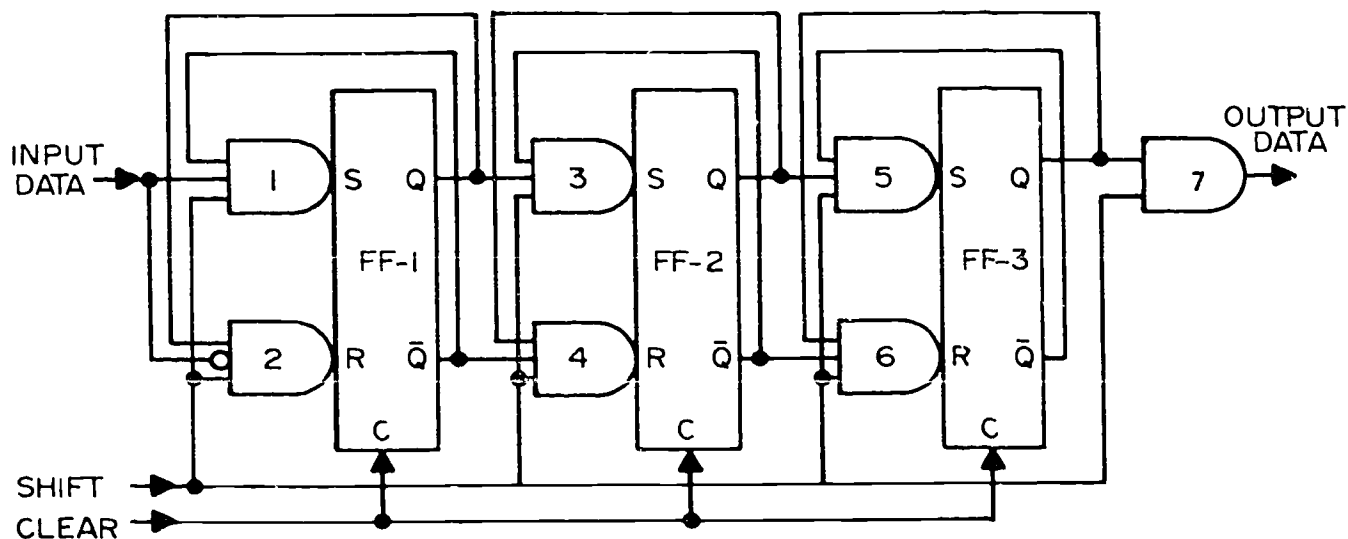

Figure 1-42. Series-in/series-out right shift register.
Now that you have an overall concept of how a shift register operates, let's use the diagram illustrated in figure 1-42 to examine the shift operation in more detail. Figure 1-42 illustrates a serial-in/serial-out, 3-bit right-shift register. The C (CLEAR) input performs the same function as the R (RESET) input, but the two are electrically isolated; thus, they are shown separately. Note that the shift input is applied to *all* of the AND-gates. It is
Assume that the register in figure 1-42 has been cleared by the application of a binary 1 to the CLEAR input. This produces a high (1) at each \bar{Q} output and a low (0) at each Q output. The flip-flops are now reset or considered to be in the 0 state.
The output (a binary 1 or 0) is produced when the shift pulse is applied. In figure 1-42, the Q output of FF-3 is presently producing a high (1) to AND-gate 7. A shift pulse will allow AND-gate 7 to transfer the 1 out. At the same time, FF-1 will change to a 0 state, FF-2 will change to a 1 state, FF-3 will change to a 0 state. The register now contains a binary 010.
10. On figure 1-42, what will be the effect of the second shift pulse if there is no data input and the register has a 001 stored?